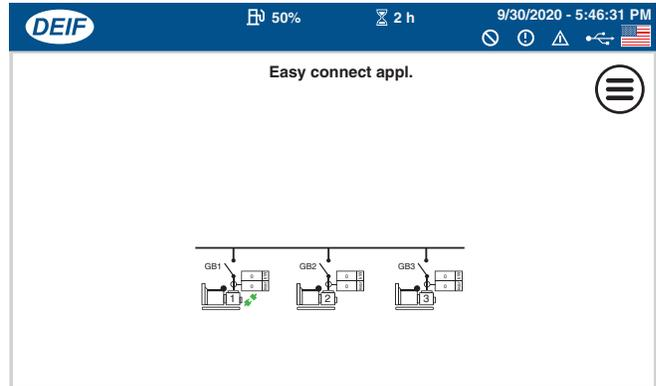

Figure 147. Supervision Screen (Circuit Breakers Closed)
- Verify that the generator layout on the Supervision screen (Figure 147) shows all generators in the paralleled system.